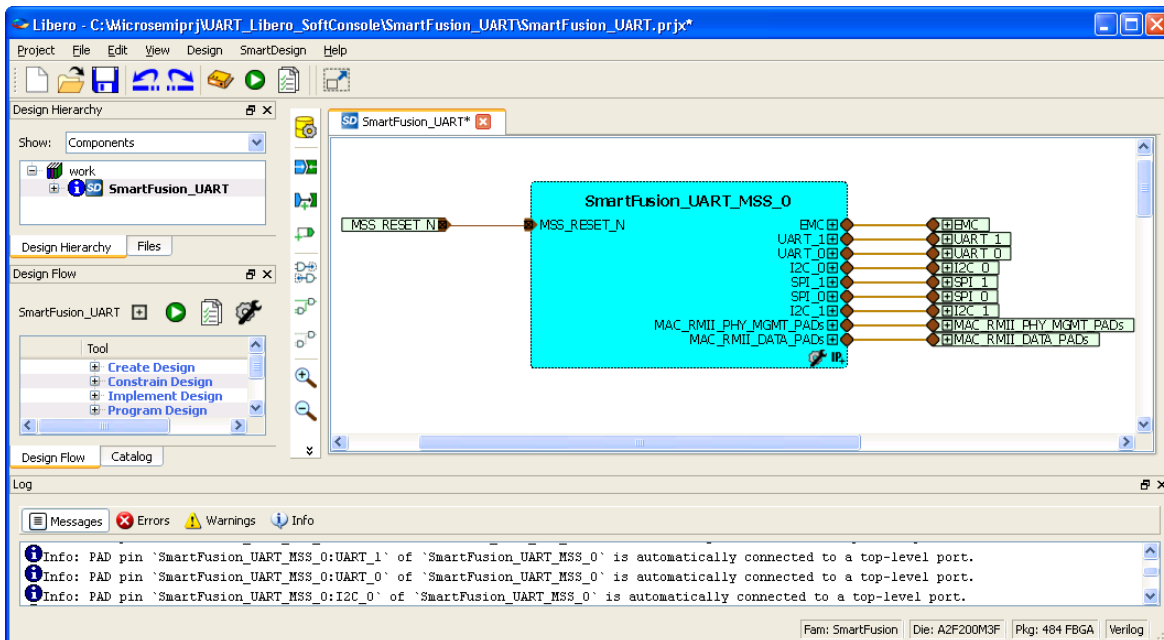

Figure 4 · The Libero SoC Window After Completing New Project Wizard
- The project is created and the Libero SoC window appears, as shown in Figure 4 . . The SmartDesign “SmartFusion_UART” is created with instantiation of the MSS component.